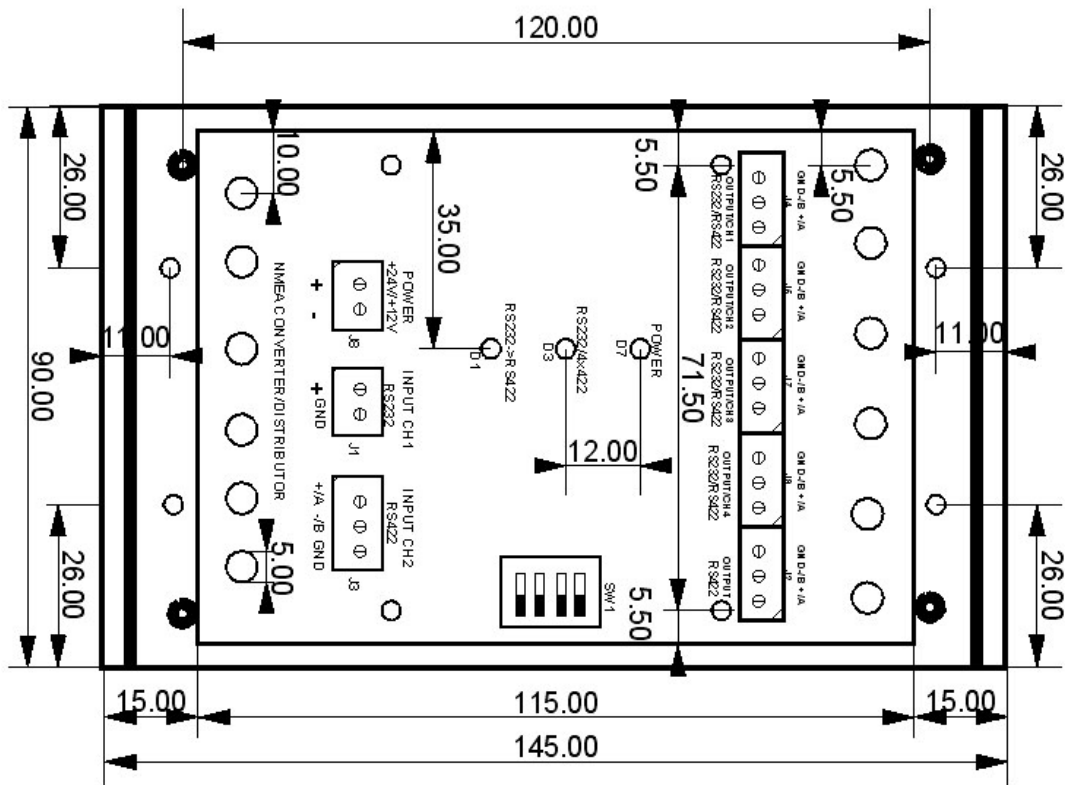

Fig. 2
2. The base unit to fasten with the self-tapping screws (see Fig. 2.)
5. Set the block by DIP-switch SW1 located on PCB (see Fig. 2). Setting shell be made in accordance with Table 1. (table printed inside of the lid).
Overall dimensions of the block NMEA Converter / Distributor unit, location of wiring terminals and DIP-switch on the PCB are shown in Fig. 2.